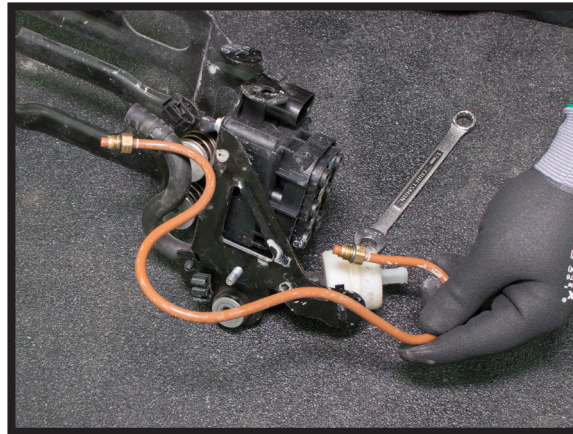

FIGURE 11
1. REMOVE THE BROWN AIR LINE FROM THE COMPRESSOR AND DISCARD. (FIGURE 11)